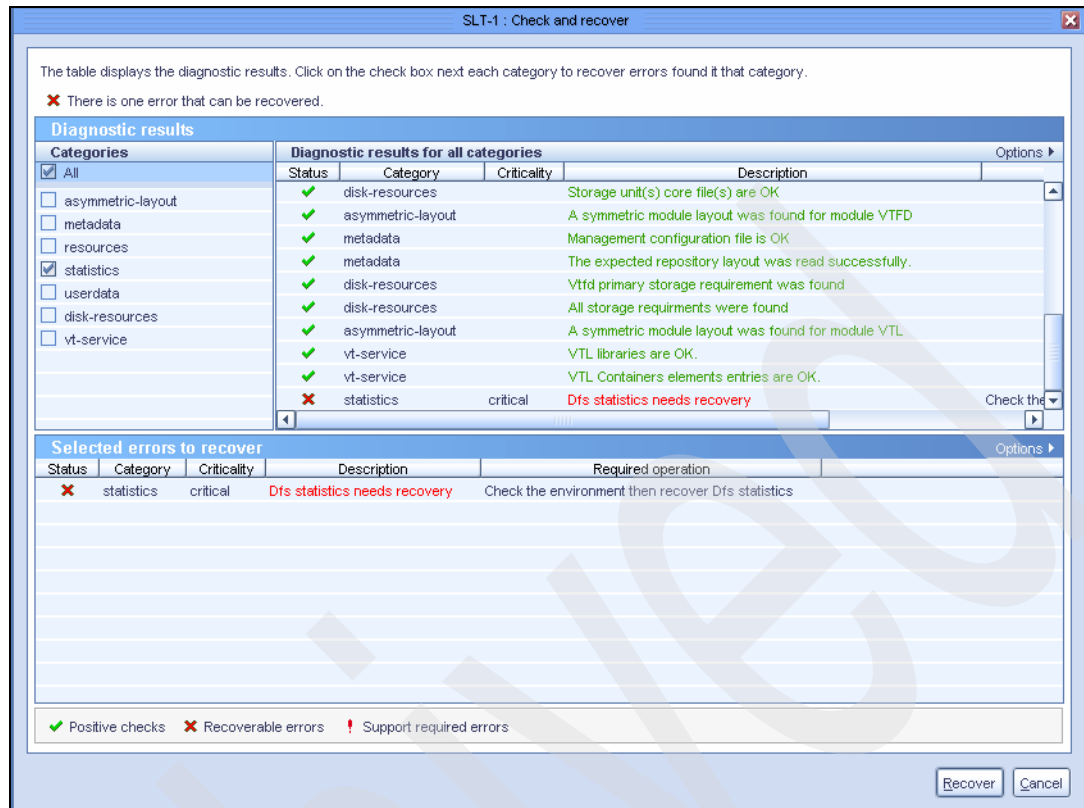

Figure 8-40 ProtecTIER Manager “Repairing the system”
1. Select the checkbox in the Categories subpane for each category for which you want to repair errors (see Figure 8-40 on page 230).